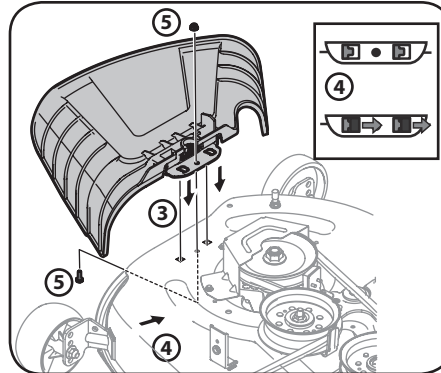

Figure 2-6
3. Place the chute deflector on the deck, be sure to insert the tabs on the chute deflector into the holes on the deck. See Figure 2-6.
4. When the tabs are installed in the deck, slide the chute deflector toward the rear of the tractor until the bolt hole in the chute deflector aligns with the hole in the deck. See Figure 2-6.
5. Secure the chute deflector in place with the flange lock nut and hex screw removed in step 2. Tighten to 102-124 in-lbs. See Figure 2-6.